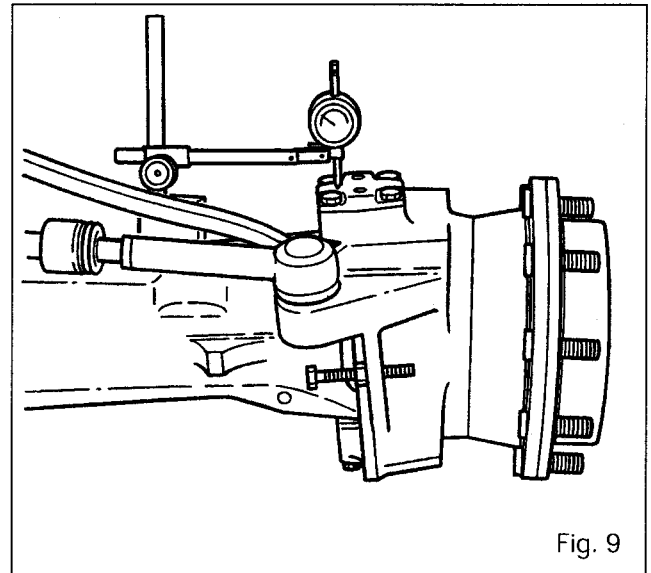
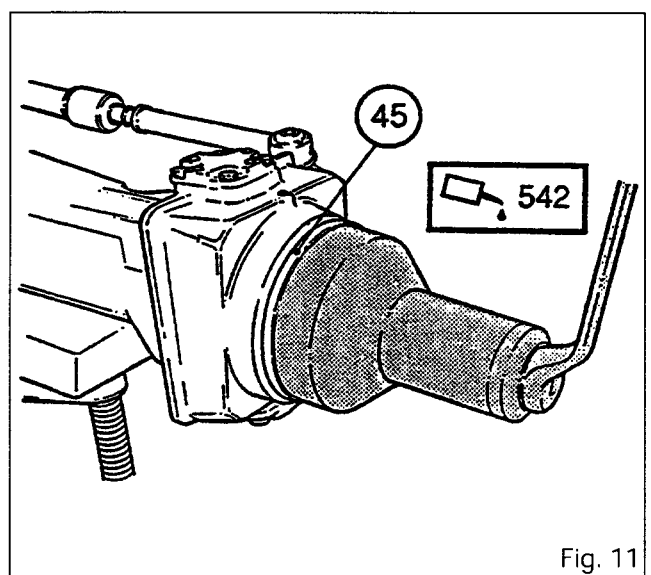

Fig. 9
Fig. 11
68. Using a dial gauge, measure the end play, using a lever between the axle housing and the swivel housing (Fig. 9).
69. Make up the play measured during the previous operation with the necessary thickness of shims (3). To obtain P1, add additional shims with a thickness of between 0.15 and 0.25 mm (0.15/0.25 being the preload value).
70. Remove the bolts (1), the cover (2) fitted with the grease nipple (32), and the cup (4). Refit the cup and the shims (3) selected during procedure 69. Refit the cover. Tighten the bolts (1) to a torque of 115 to 140 Nm.
71. Using a grease pump, lubricate the bearing (13) (14) and (4) (5).
72. Smear the circumference of the seal (45) with Loctite 542 (Fig. 11) and oil the lips.